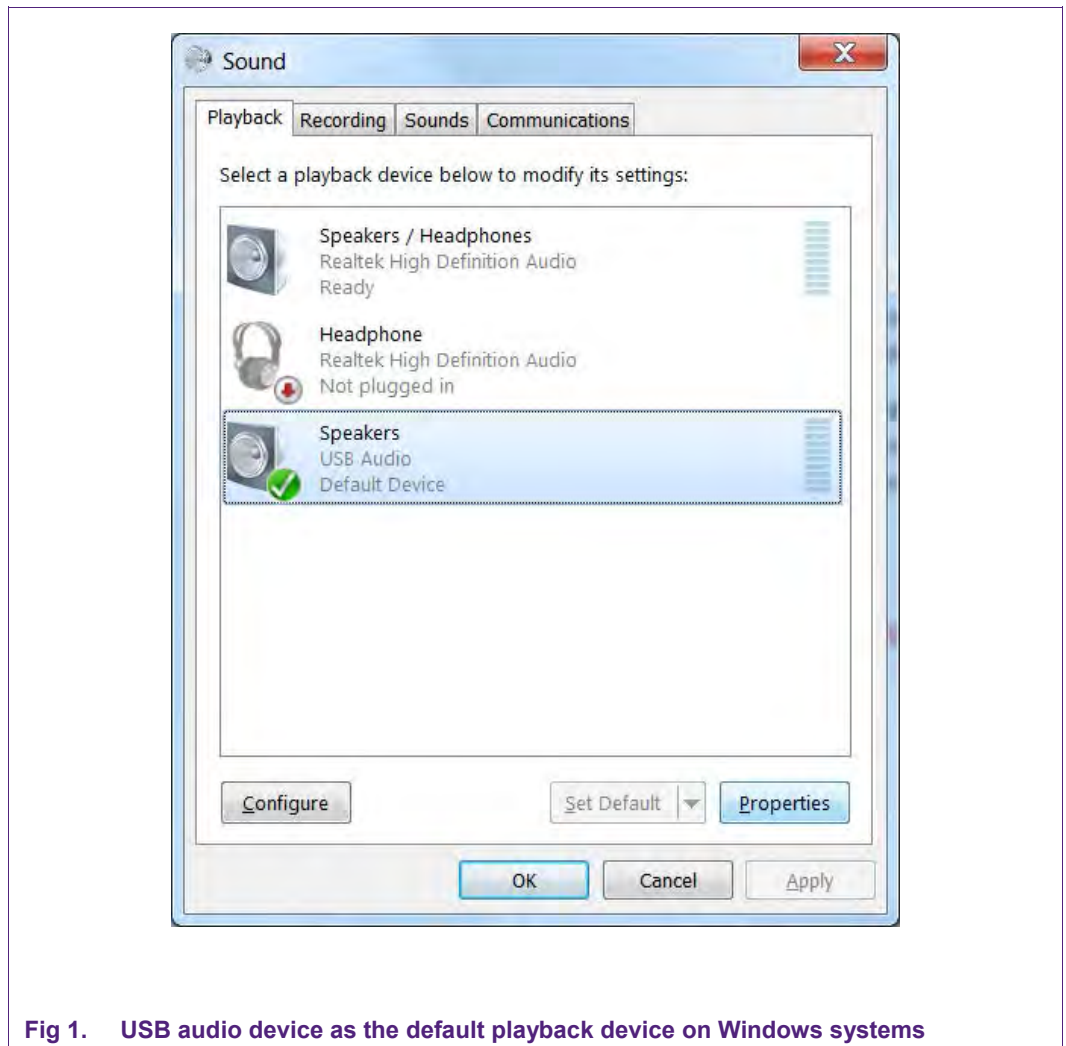

Fig 1. USB audio device as the default playback device on Windows systems
- Fig 1. USB Audio device as the default playback device on Windows systems 14